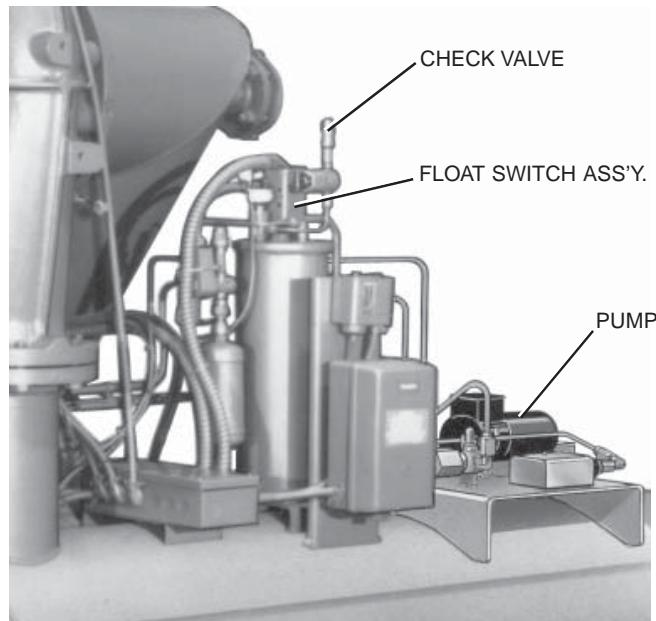

FIG. 58 – TURBOGUARD PURGE UNIT
A Turboguard purge unit is furnished and mounted at the rear of the system (See Fig. 58). The purpose of this unit is to automatically remove the mixture of noncondensable gases and refrigerant from the top of the condenser, expel the noncondensables to the atmosphere and return the refrigerant to the system.
2. Remove the dehydrator as follows: Refer to Fig. 58.